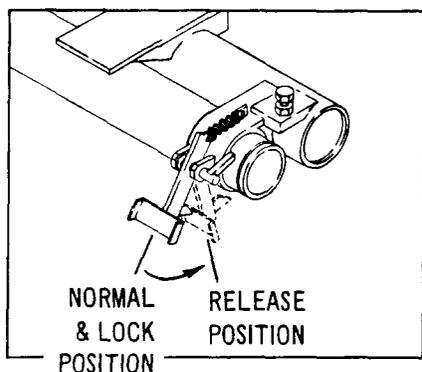

Fig. 12
13.01 Open platform by depressing foot pedal located on right side of lift gate. See Fig. 12. Manually pivot platform to "horizontal" position.